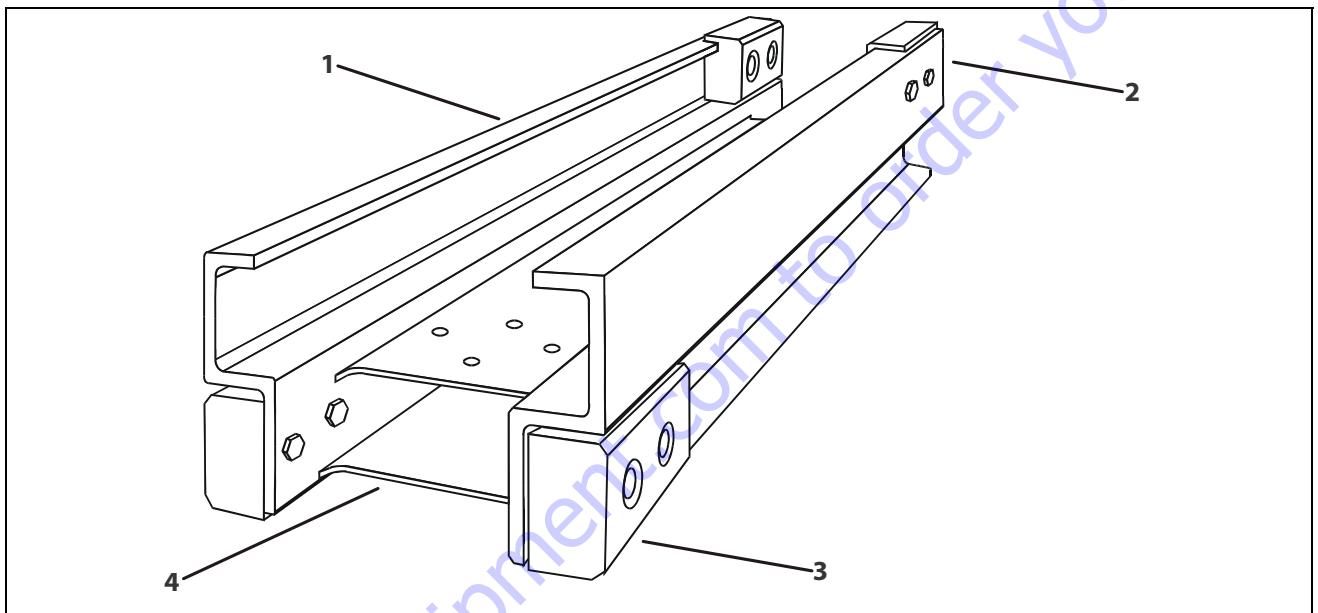

Figure 5-7. Mast Section - Assembly Reference
1. Place mast section 1, rail (open) side up on a clean, flat surface, preferably a table or work bench capable of supporting the weight of the entire mast assembly. (Refer to Figure 5-7.) Slide mast out over end of work surface far enough to allow access to the chain anchor attach hole near the top of the mast.